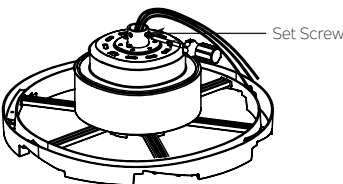

Fig. 9
Step 4. Loosen the two set screws on the motor coupling.(Fig. 9)